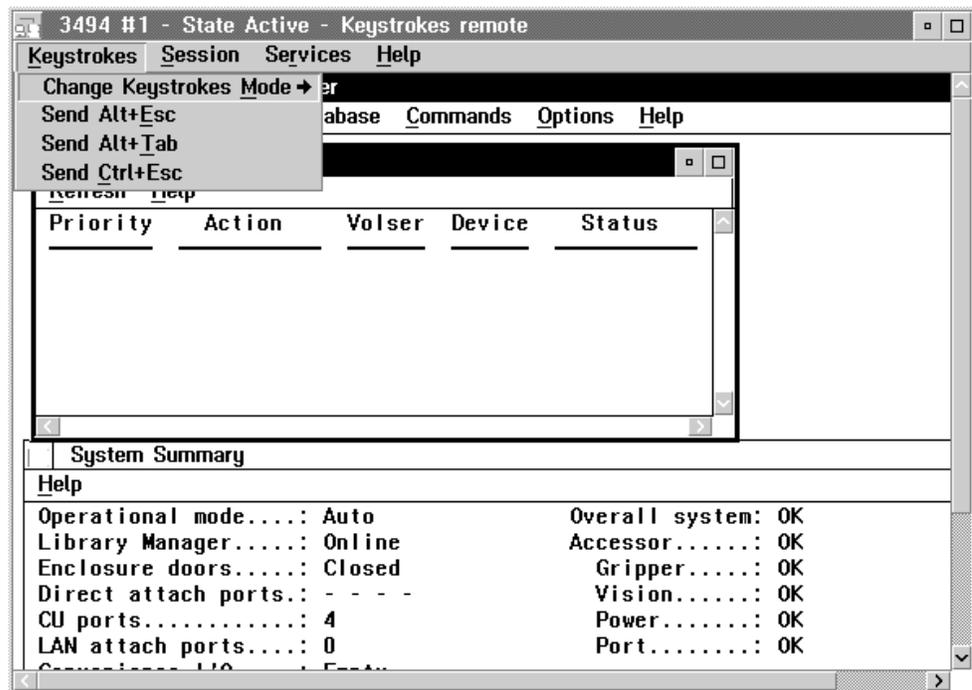

Figure 159. Remote Library Manager Console Window with Keystrokes Pull-Down
The Keystrokes mode, displayed on the title bar of the remote Library Manager console session window, determines whether the remote Library Manager console’s keyboard input and pointing device movements affect the remote Library Manager console or the 3494 Library Manager. The remote Library Manager console starts with *State Active* and *Keystrokes remote* displayed in the title bar (Figure 159 on page 249).
You can send operating system hot key combinations to the Library Manager from the Keystrokes pull-down (Figure 159).
Figure 159 shows the remote Library Manager console window with a view of the Library Manager's display during an active session. The remote Library Manager console user is working in *Keystrokes remote* mode.
1. Select **Send Alt+Esc** from the Keystrokes pull-down on the remote Library Manager console session window (Figure 159 on page 249).
1. Select **Send Alt+Tab** from the Keystrokes pull-down on the remote Library Manager console session window (Figure 159 on page 249).
- Select **Send Ctrl+Esc** from the Keystrokes pull-down on the remote Library Manager console session window (Figure 159 on page 249).